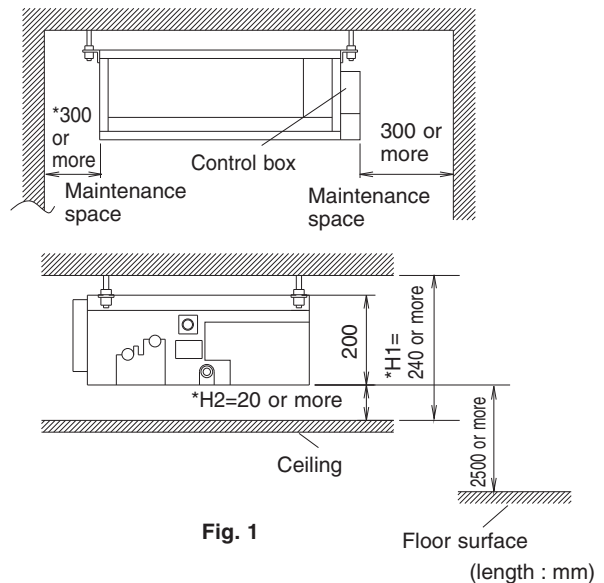

Fig. 1
(1) Select an installation site where the following conditions are fulfilled and that meets with your customer's approval.
- Where sufficient clearance for maintenance and service can be ensured. **(Refer to Fig. 1)**